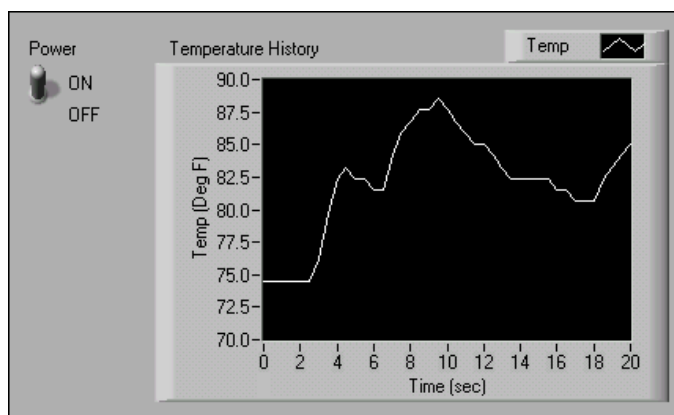

Figure 5.5
1. Open a blank VI and build the front panel shown in Figure 5.5.